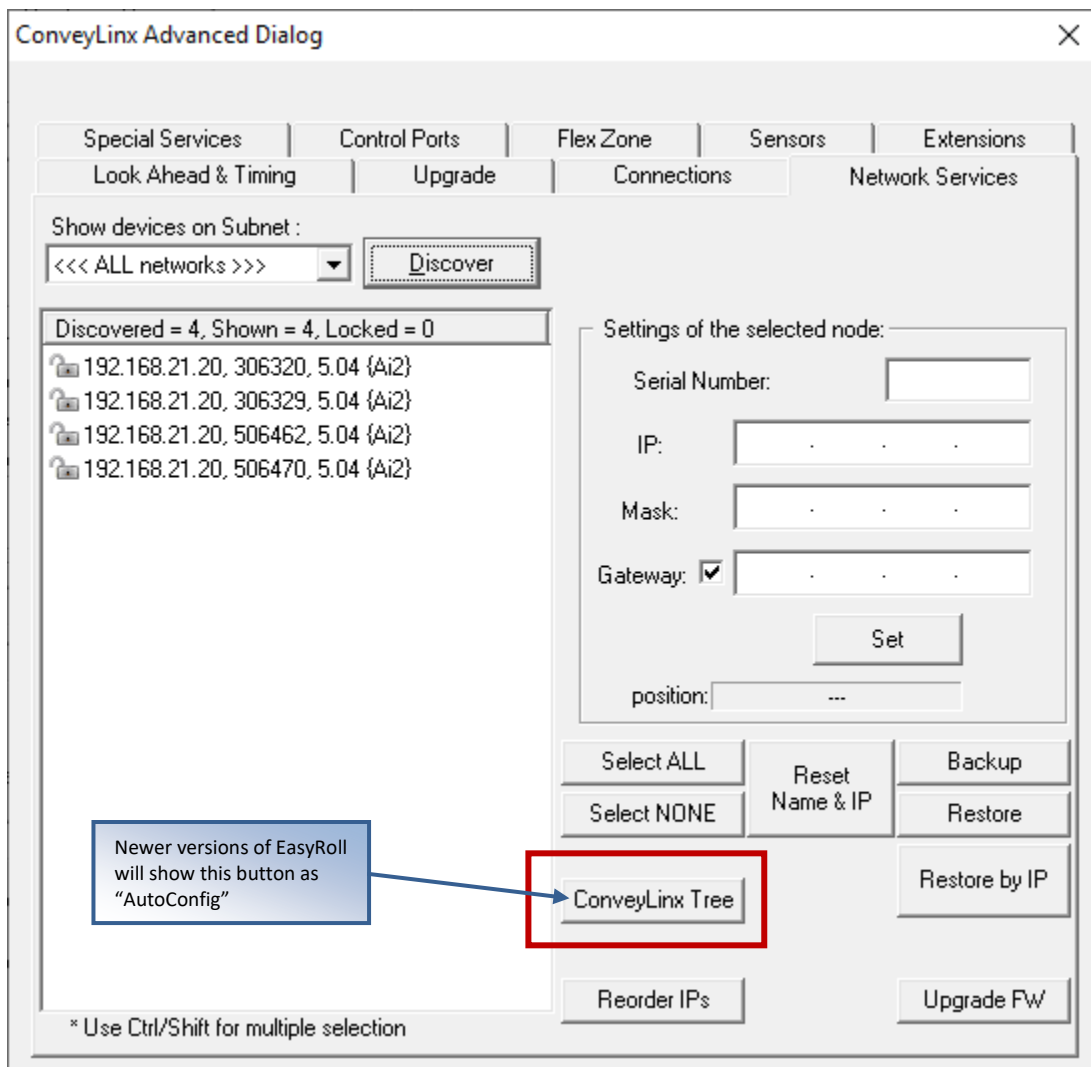

FIGURE 25 - DISCOVER PROCEDURE ON MODULES
2. When the *Modules* appear in the module table, select the ones that you want to configure and click "ConveyLinX tree" as shown in *Figure 25*.
3. Start *EasyRoll V4.04* or higher. Invoke the *Advanced Dialog* and go to the *Network Services* tab, click on the *Discover* button. All modules in the network should be display. Click on *ConveyLinx Tree* button as shown in *Figure 25* . Topology of the ConveyLinx modules will be display in a few seconds.